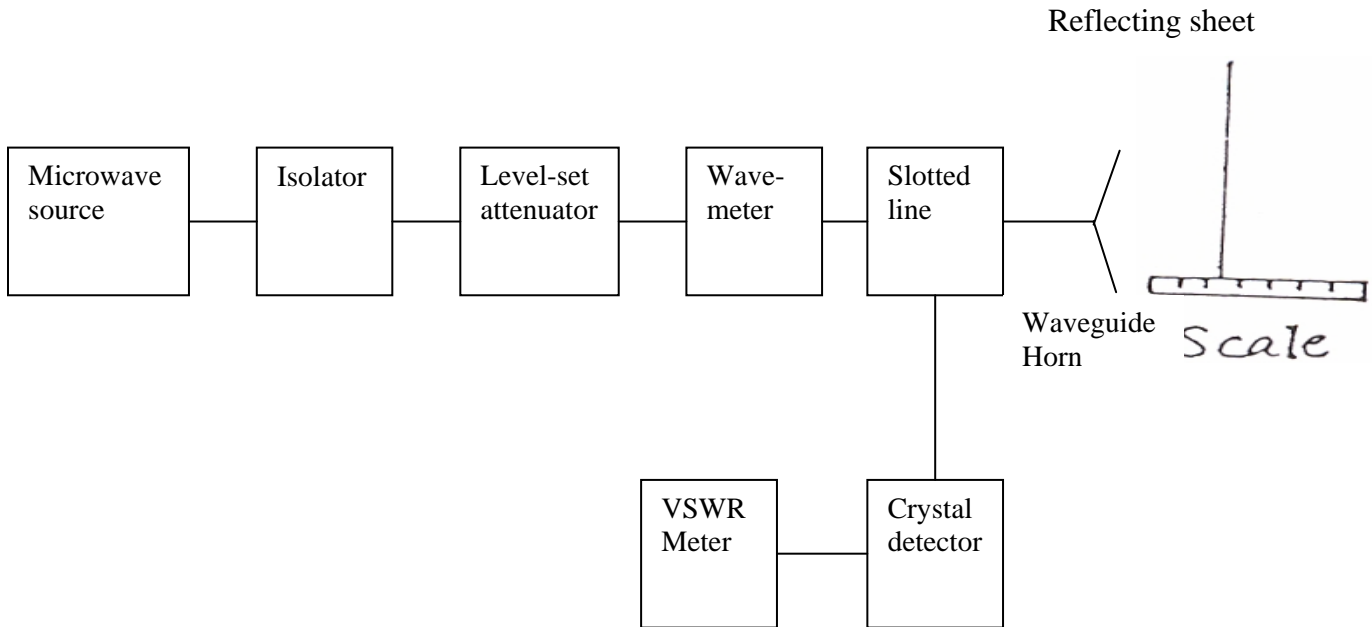

Fig.1 Experimental arrangement for measuring  $\lambda_g$  and  $\lambda_a$
1. The experimental arrangement to be made is shown in Fig.1